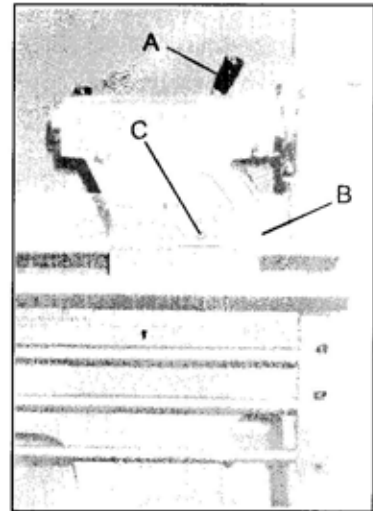

Fig. 24
1. Lock tailstock in position by raising locking handle (A, Fig. 24)
2. Loosen setscrew (B, Fig. 24) on right end of tailstock
3. Alternately loosen and tighten front and rear setscrews (C, Fig. 24) until desired offset is indicated on scale.
4. Tighten setscrew (B, Fig. 24) on right end of tailstock to lock setting.